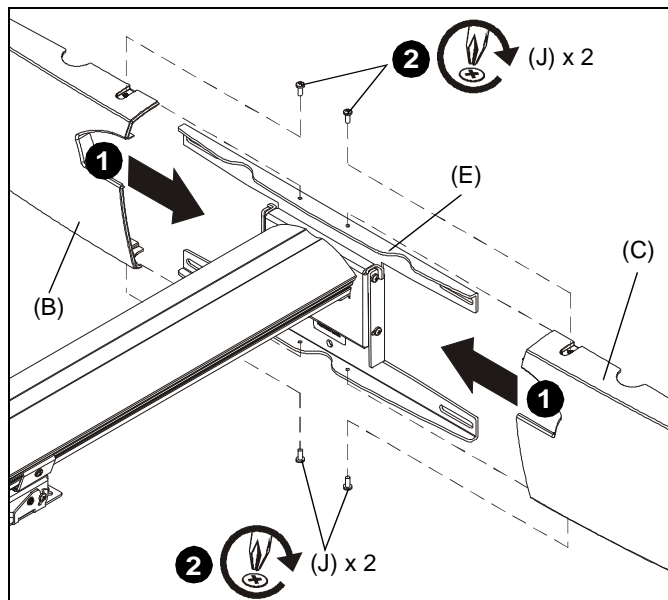

Figure 18
1. Add left and right wall plate covers (B and C) over wall plate (E). (See Figure 18)
2. Fasten covers using four M5 x 12mm Phillips cap head screws (J). (See Figure 18)